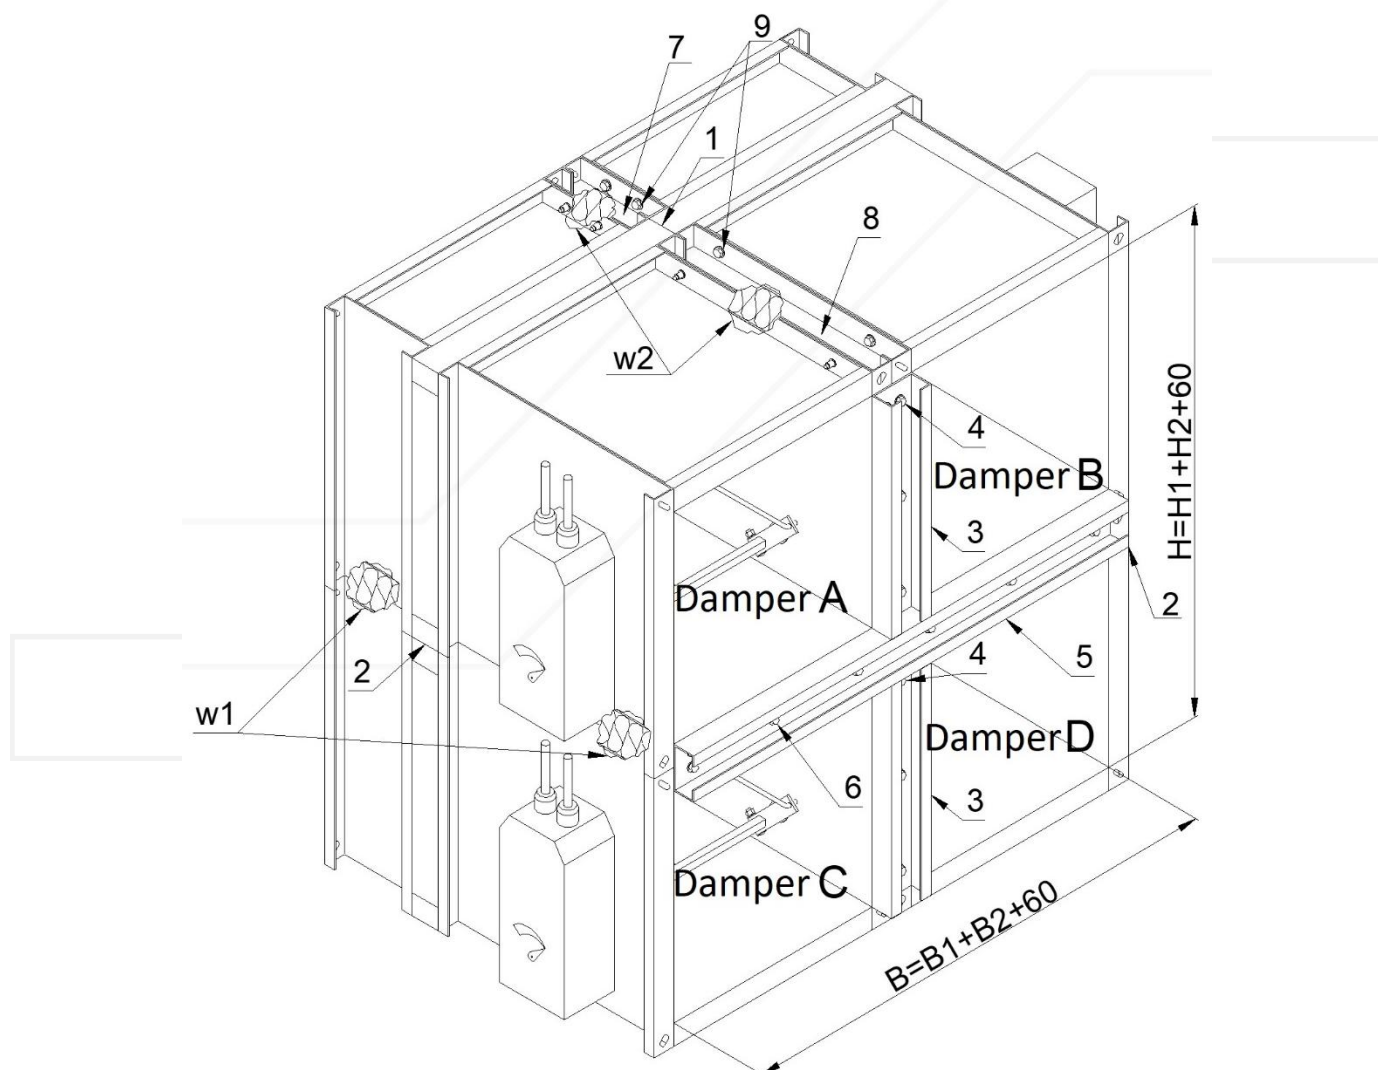

Figure 16. Battery made of four dampers KWP-P
- For vertical battery consisting of three KWP-P smoke control dampers: (B1+120)x(H1+H2+H3+240) (Figure 16),